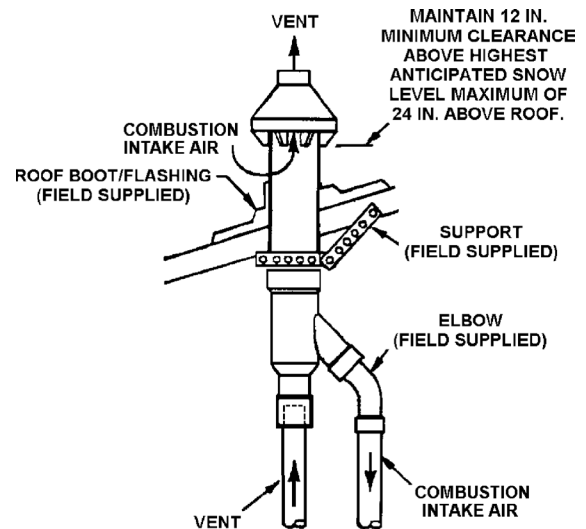

Figure: 27
5. Secure assembly to roof structure as shown in "Figure: 27" using field supplied metal strapping or equivalent support material.
NOTE: Ensure termination height is above the roof surface or anticipated snow level as shown in "Figure: 27".
7. Cement water heater combustion air intake and vent pipes to concentric vent termination assembly. See "Figure: 27" for proper pipe attachment.